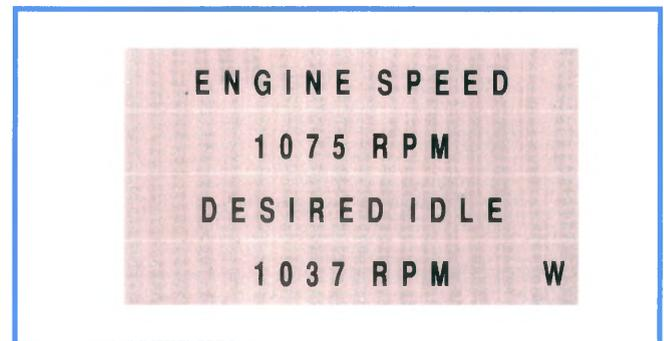

Figure 6-35, Awaiting Trigger Display (Flashing "W")
- A flashing "W" (figure 6-35) indicates the Tech 1 is receiving data and storing data, but waiting for a trigger.